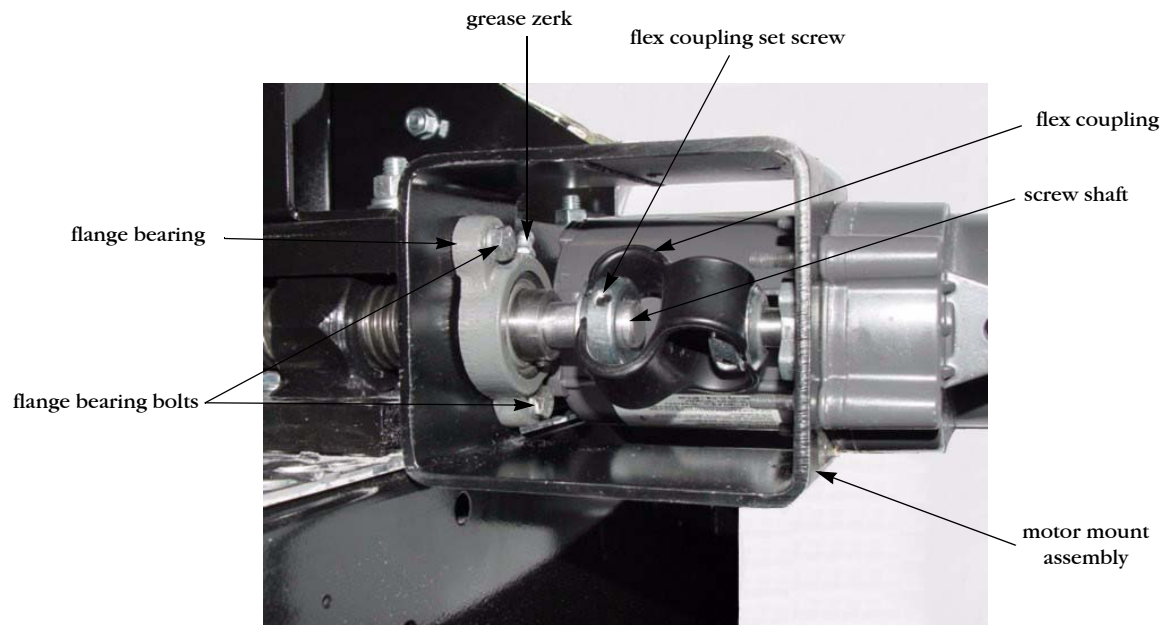

Figure 4: Install the Motor Mount Assembly
**Note:** The flange bearing must be facing as shown in Figure 4 so the grease zerk is accessible.